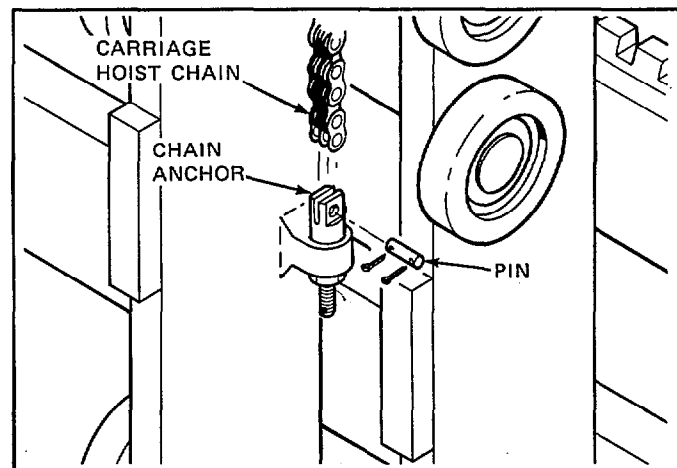

Figure 31. Carriage Chain Anchor
2. Remove the pins that secure the carriage hoist chains to the chain anchors located on the carriage weldment. See Figure 31.